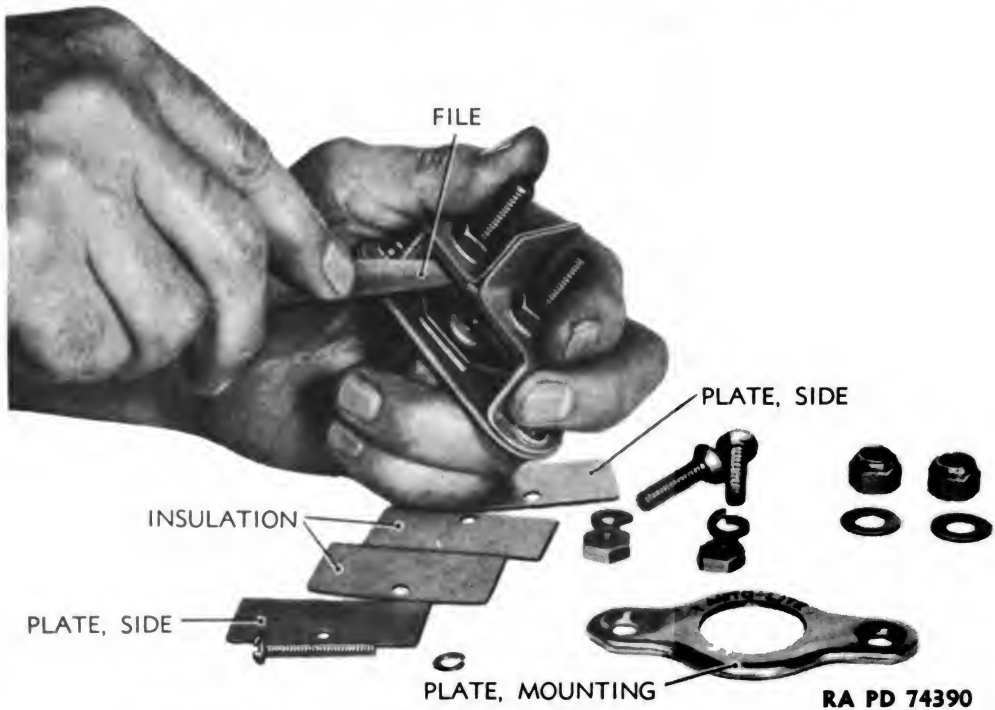

Figure 222 — Brightening Starter Switch Contacts
(2) Observe the condition of the contact yoke and the stud plates. If they are not bright and clean, brighten them with a narrow file or with CLOTH, abrasive aluminum-oxide (fig. 222).